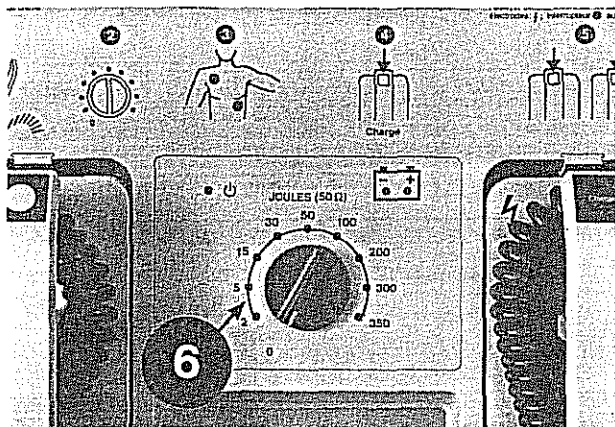

Figure 5
- * Start the energy storage process by pressing the **Charge** button (in the handle of the right-hand electrode). The red pilot lamps (6) light up one after the other as soon as the set amount of energy has been stored (Figure 5).